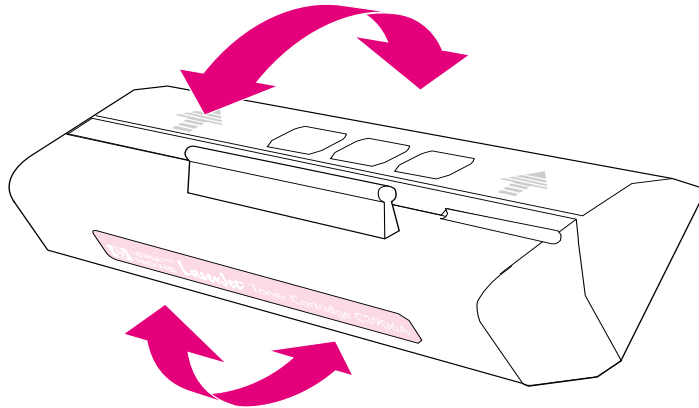

Figure 2-2 Toner cartridge distribution
- Before installing a cartridge, distribute the toner evenly by rotating the cartridge back and forth five to six times. (See Figure 2-2.) Repeat this action when toner begins to run low.